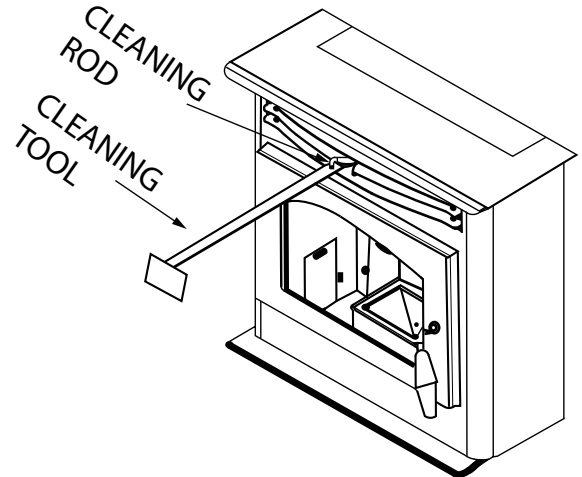

FIGURE 25
- Clean heat exchanger tubes (see “**CLEANING**” and Figure 25).
- Heat Exchange Tubes** – Your stove is designed with a built-in heat exchange tube cleaner. This should be used every two or three days to remove accumulated ash on the tubes, which reduces heat transfer on this unit. Insert the handle end (with hole) of the cleaning tool onto the cleaning rod (refer to figure 25). The cleaner rod is located in the grill above the stove door. Move the cleaner rod back and forth several times to clean the heat exchanger tubes. Be sure to leave tube cleaner at the rear of the stove.